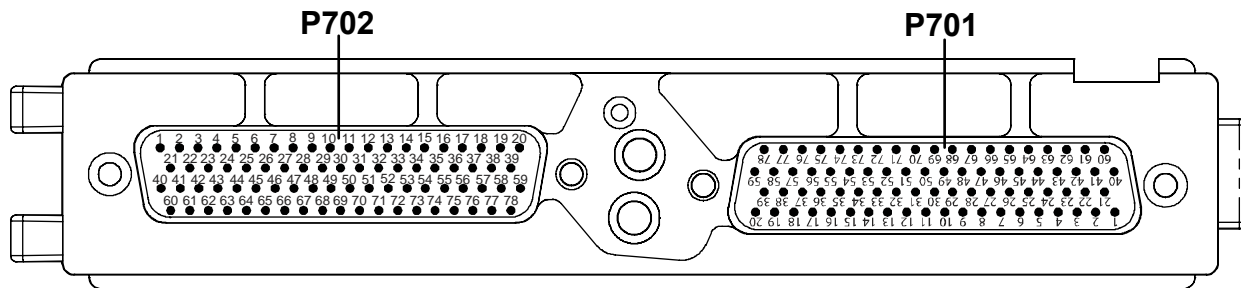

Figure 5-43. GEA 71 Backplate Connectors
1. Using the FMS knob, select the AUX-SYSTEM STATUS page as shown in Figure 5-43.